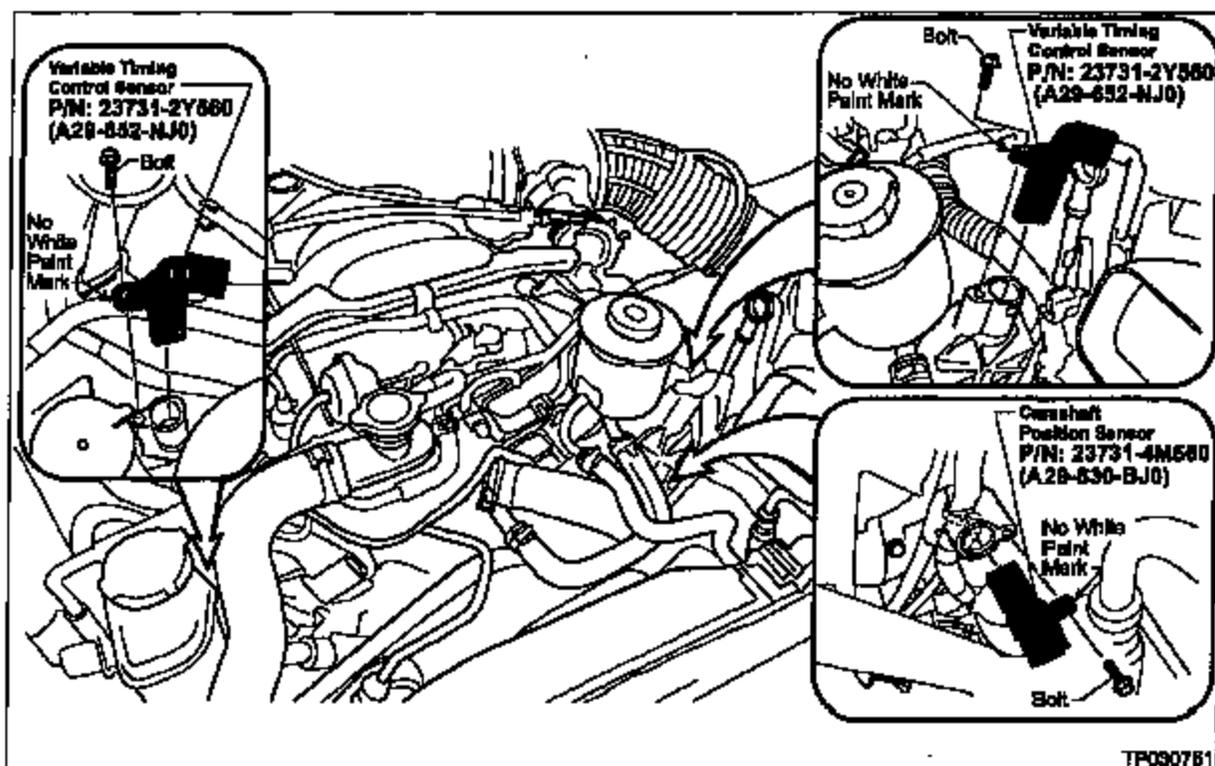

Figure 15
4. Locate the Camshaft Position Sensor and the Variable Timing Control Sensors (see Figure 15).